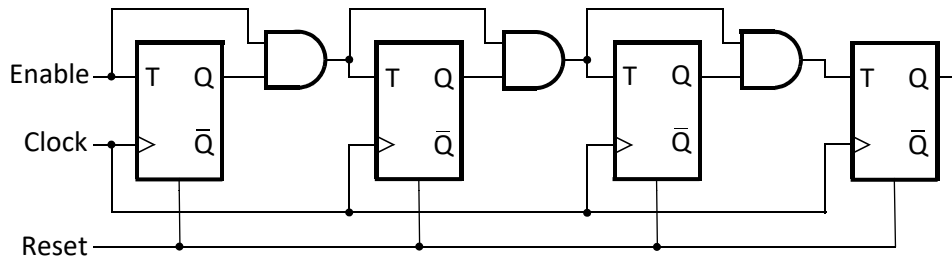

Figure 1: A 4-bit counter using T flip flops.
Consider the circuit in Figure 1. It is a 4-bit synchronous counter that uses four T-type flip-flops. The value of the counter comprises the Q outputs of the T flip-flops. The least significant bit is on the left in Figure 1. The counter increments its value on each positive edge of the clock if the *Enable* signal is asserted.
1. Prior to lab, draw the schematic for an 8-bit counter using the same structure as shown in Figure 1.